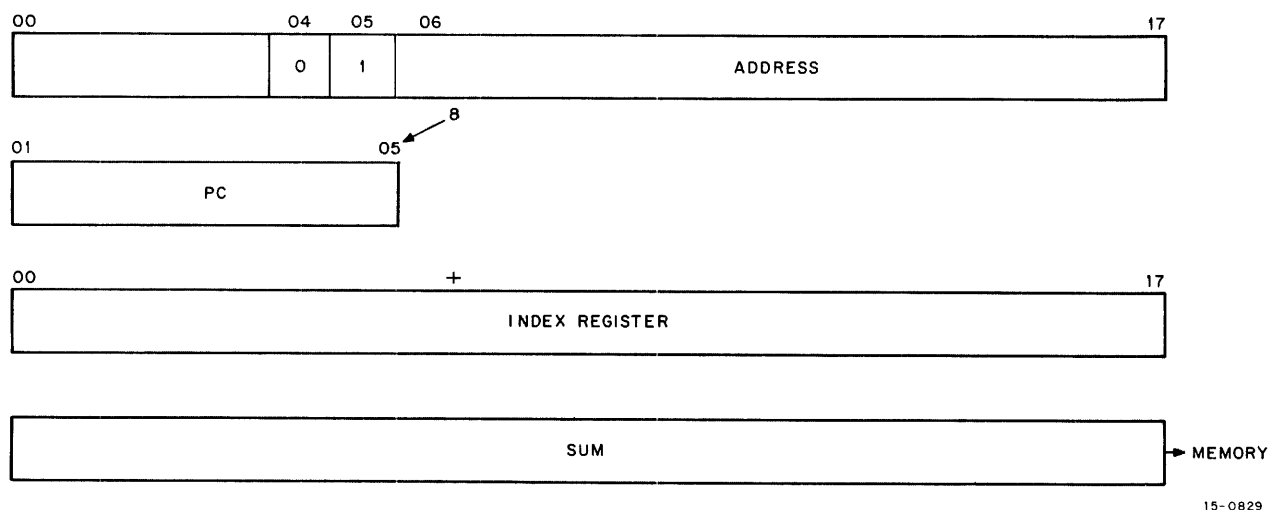

Figure 1-7 Indexed Addressing: Type IV
Indexed addressing (Figure 1-7) makes use of the Index register to address up to 131072 locations. Bit 05 is used to indicate that an indexed reference is being made. It follows that the XVM CPU must be running in Page mode to enable this mode of addressing. The operand address is concatenated with PC01-PC05, from the Program Counter (PC). The result is added to the contents of the Index register (XR) and the sum is used as the memory address. Note that the contents of the Index register may be negative.